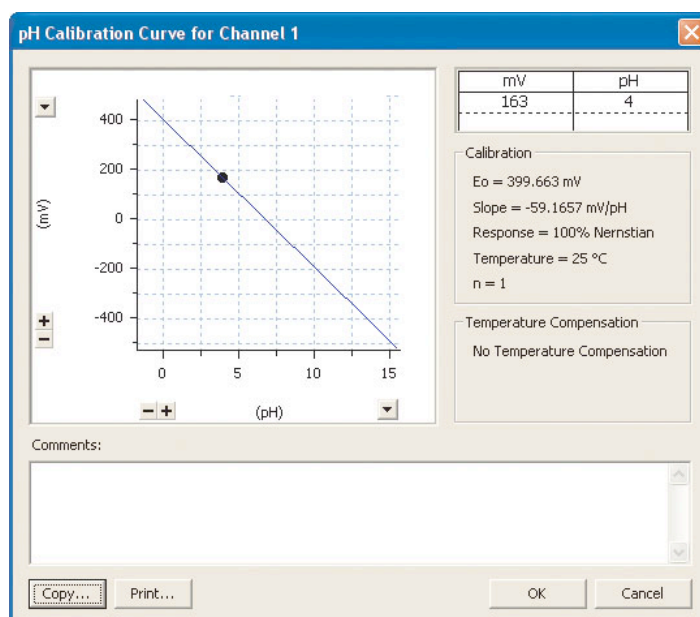

Figure 6.4 Calibration plot for single point calibration
- 6.2.10** Select a region of the trace representative of the stabilised recording of the first buffer. Click the arrow button, to automatically enter the mean potential of the region into the adjacent box, then type in the pH value of the buffer into the linked box. The dialog box is updated assuming the electrode has 100 % Nernstian behaviour, and the E_0 value for the electrode is shown (**Figure 6.3**). This is the equivalent to a single point calibration. Click the **View Response...** button to view the View Response dialog box (**Figure 6.4**). Click OK to return to the pH dialog box.